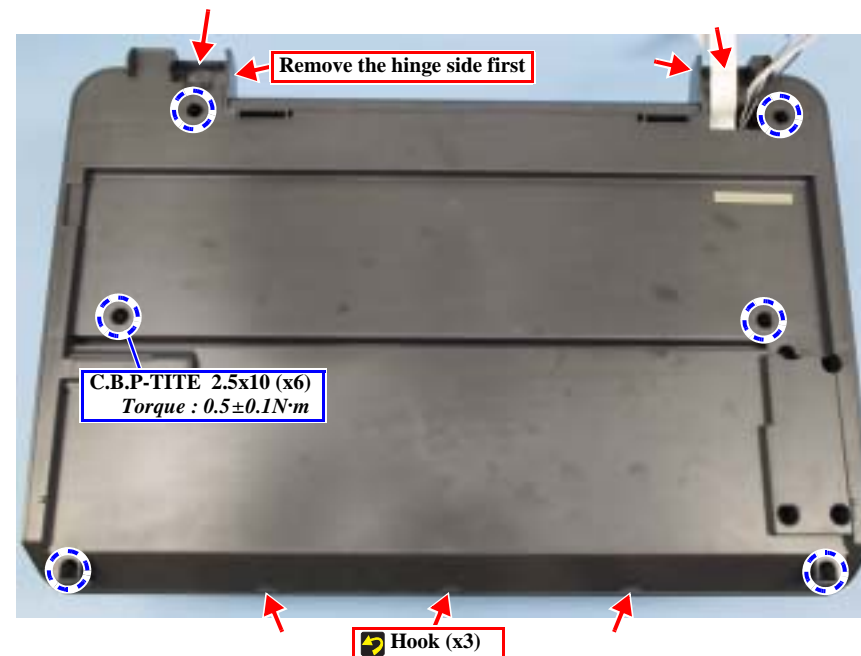

Figure 4-47. Removing the Scanner Housing
2. Remove the screws (x6) on the bottom of the Scanner Unit. (Fig. 4-47)
- Tighten the screws in the specified order. (Fig. 4-47)